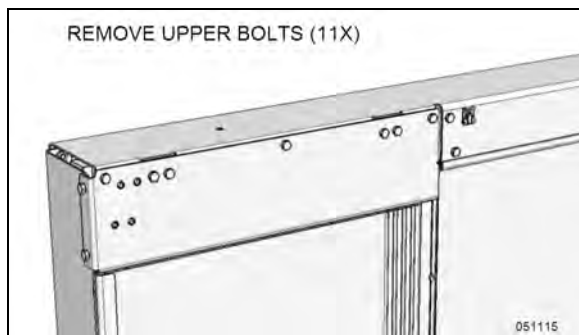

FIGURE 47: UPPER FRAME BOLTS
7. Remove CAC upper front frame structure by unscrewing the 11 hex bolts holding it (Figure 47).